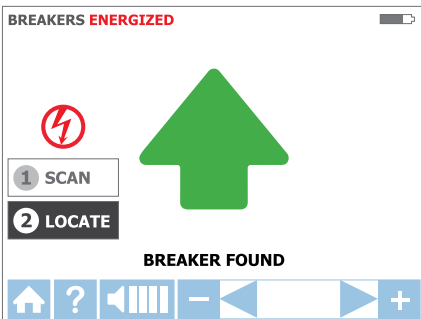

Figure 3.3e
3. Rescan all breakers until solid green arrow and audible alert (continuous beep) indicates that the correct breaker was found. (See figure 3.3e)